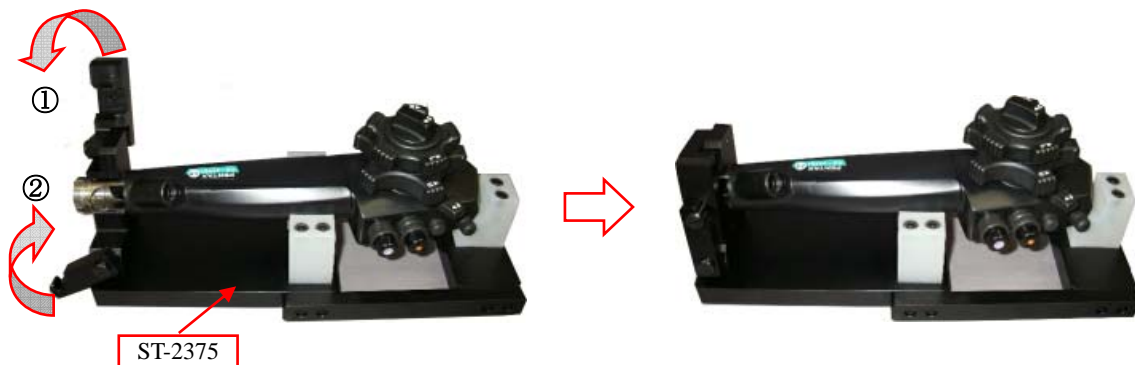

Fig.6-2-2
- 1) Set the Control Body on ST-2375 as shown in Fig.6-2-2.